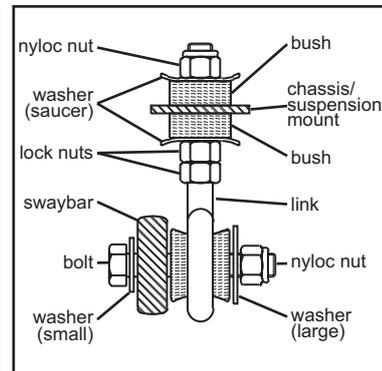

Figure 2. Link assembly guide.
6. Using M10x60 bolts, 3/8 washers and M10 nyloc nuts, connect the swaybar to the endlinks. Refer to figure 2 and photo 5.